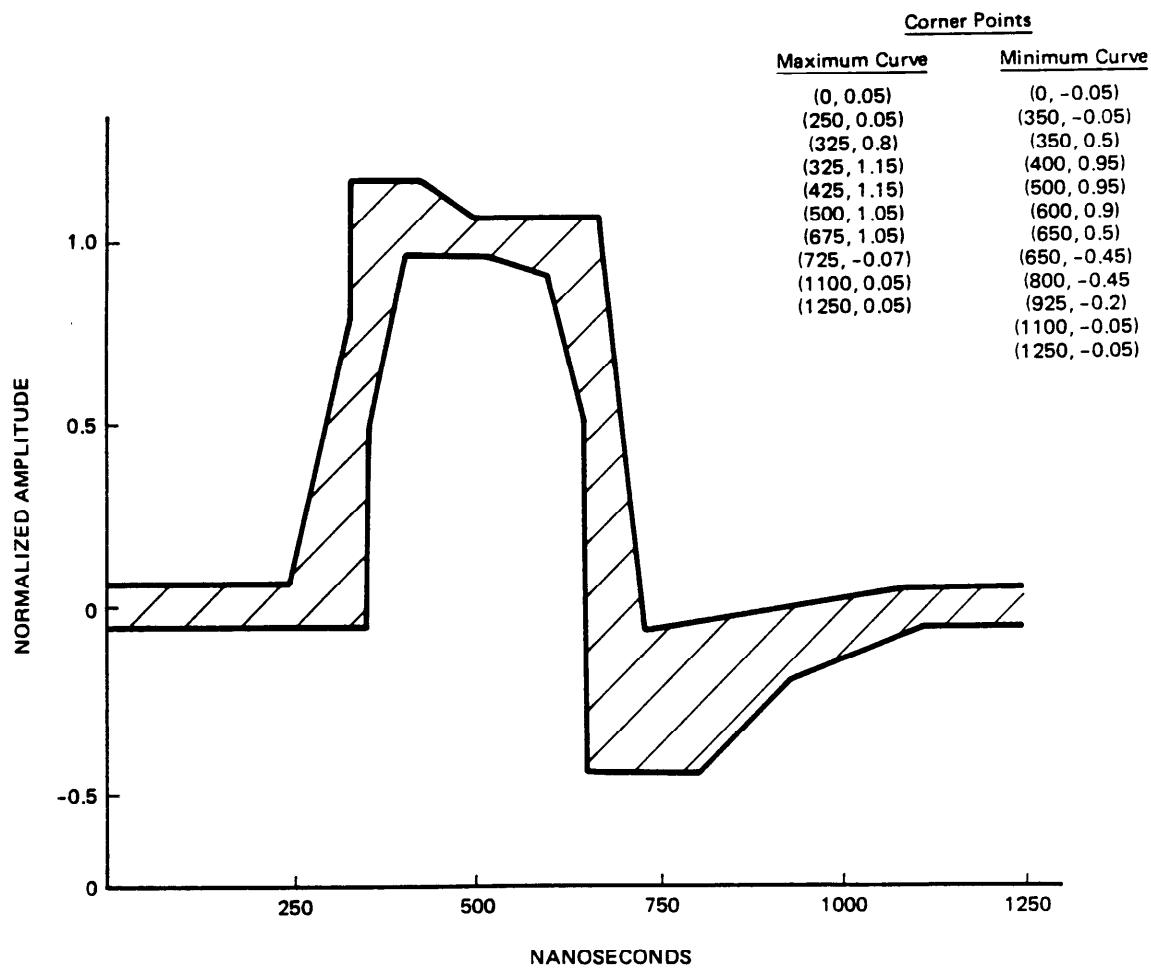

Figure 4-1 DSX-1 Isolated Pulse Template
- Pulse shape : An isolated pulse fits the template shown in Figure 4-1. The pulse amplitude is between 2.4 and 3.6 volts and scaled by a constant factor to fit the template.